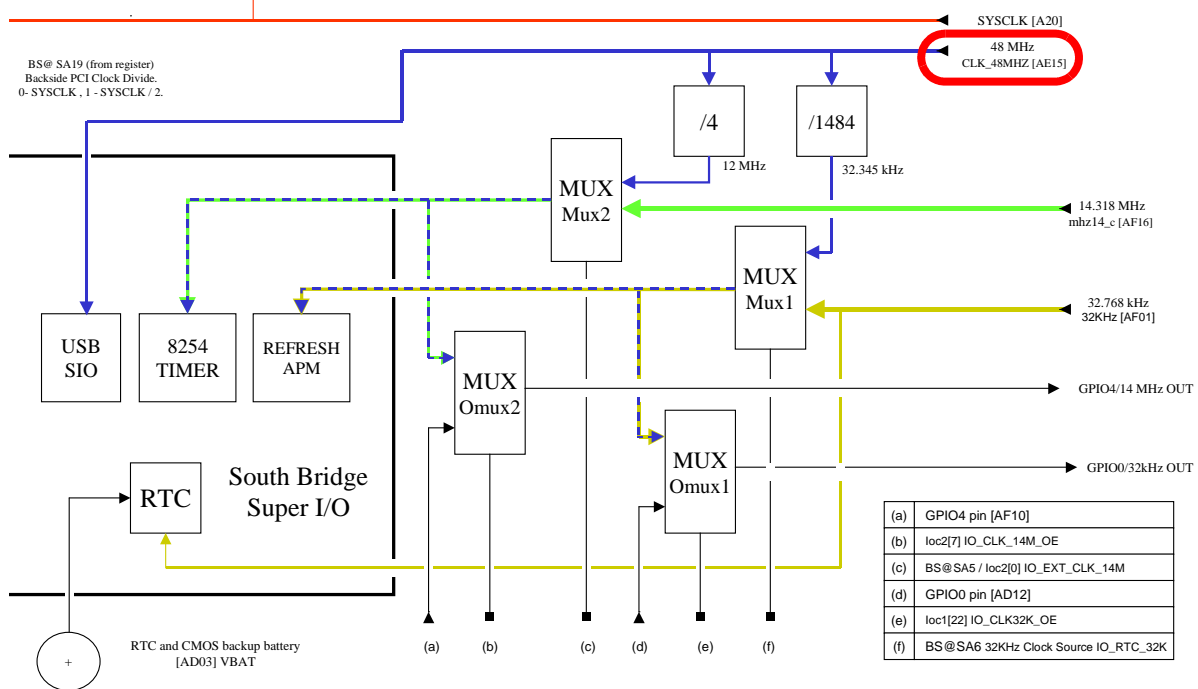

Figure 5-13 USB_48MHz_C [AE15] Clocking Control Circuitry
d. Get the 8254 Timer the USB Clock/4 or 12 MHz. See [Figure 5-13 "USB_48MHz_C \[AE15\] Clocking Control Circuitry" on page 453.](#)